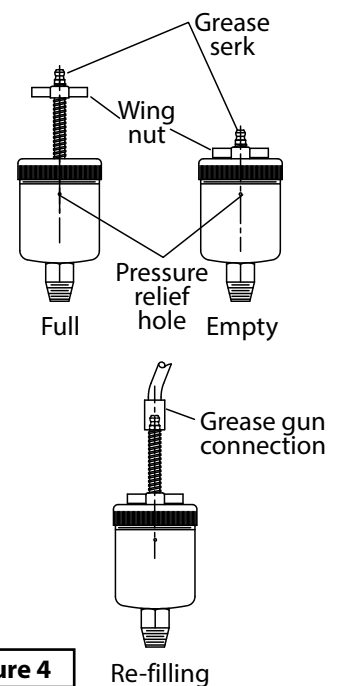

Figure 4
Mechanical Seal (see Figure 4) - A self-feeding lubricating grease cup (32) is provided to supply grease to the shaft seal (26).